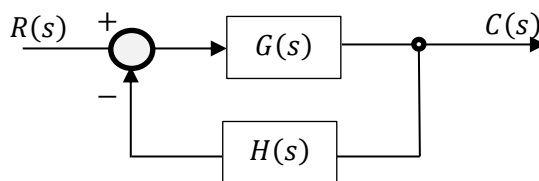

Figure Q3
3. A closed loop feedback control system is shown in figure Q3.